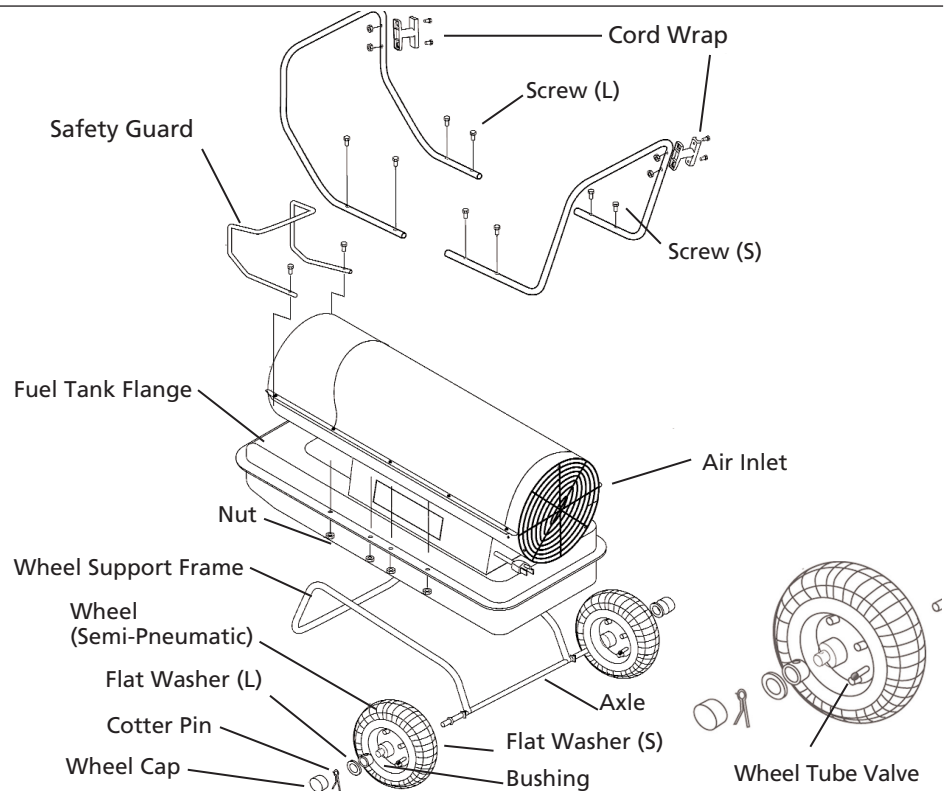

Figure 5 - Wheel and Handle Assembly
NOTE: When installing wheels, tube valve should face out from support frame (Figure 5).
2. Place flat washers (L) and cotter pins on axle ends and bend cotter pins with long nose pliers to secure.
3. Place wheel cap on flat washers (L) and put wheel cap in flat washers (L) end.
4. Place heater on wheel support frame. Make sure air inlet end (rear) of heater is over wheels. Align the holes on fuel tank flange. Insert screws through handles (front and rear), fuel tank flange, and wheel support frame as shown in Figure 5 and attach nut finger tight after each screw is inserted.